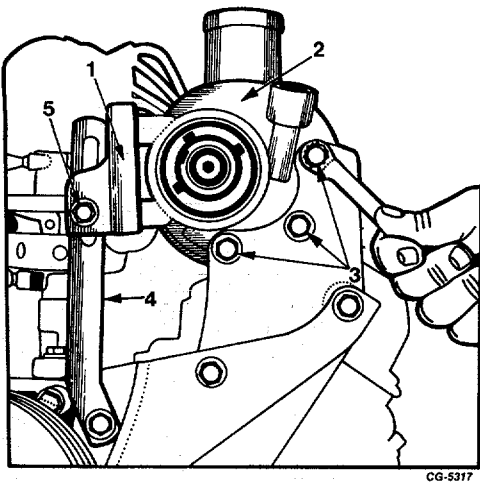

Fig. 24 Removing Power Steering Pump
- 20. Remove bolts and flat washers securing power steering pump to bracket, Figure 24. Remove adjusting strap bolt and remove power steering pump with side bracket.